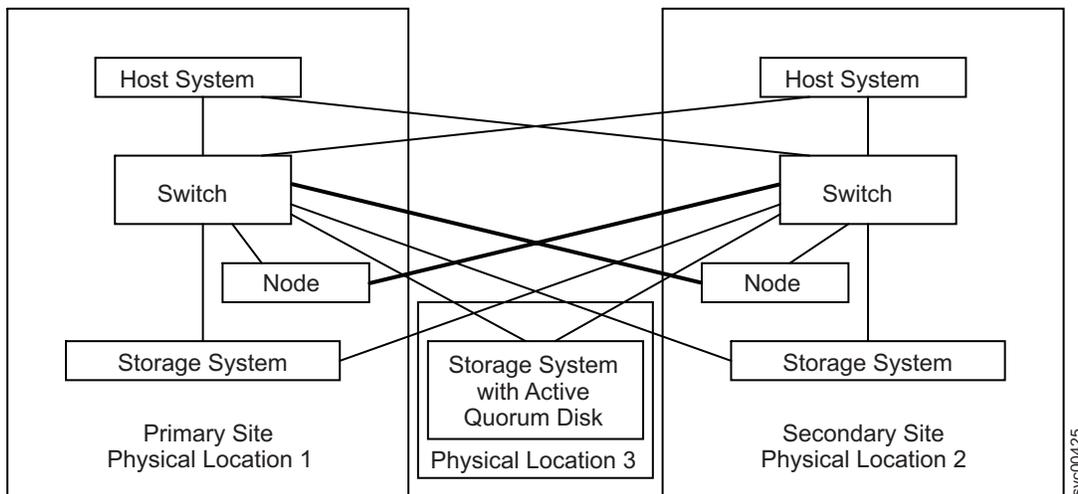

Figure 36. A split cluster with a quorum disk located at a third site
- Figure 36 on page 98 illustrates an example split cluster configuration. When used in conjunction with volume mirroring, this configuration provides a high availability solution that is tolerant of a failure at a single site. If either the primary or secondary site fails, the remaining sites can continue performing I/O operations. In this configuration, the connections between SAN Volume Controller nodes in the cluster are greater than 100 meters apart, and therefore must be longwave fibre-channel connections.
In Figure 36, the storage system that hosts the quorum disks is attached directly to a switch at both the primary and secondary sites using longwave fibre-channel connections. If either the primary site or the secondary site fails, you must ensure that the remaining site has retained direct access to the storage system that hosts the quorum disks.